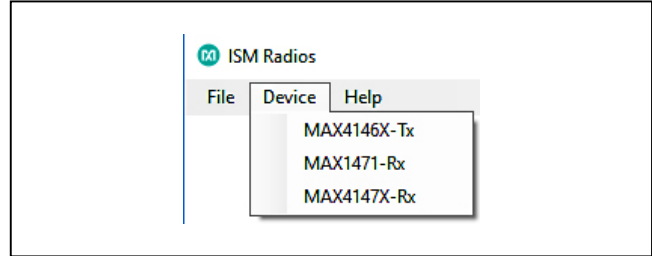
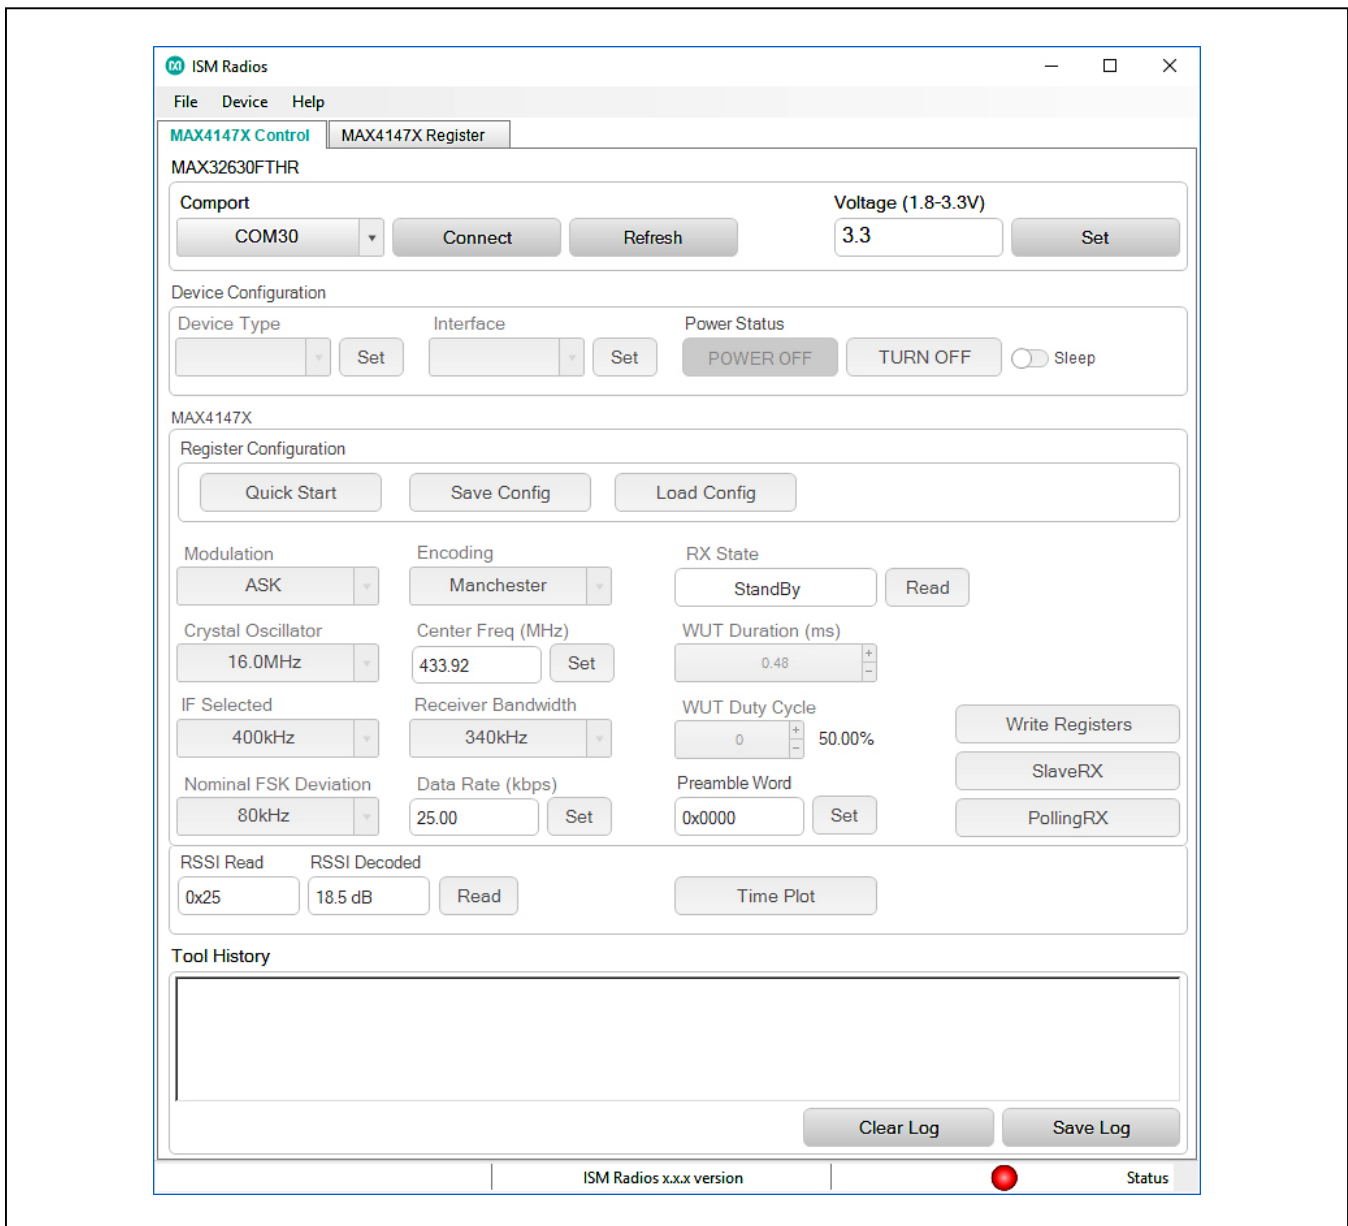

Figure 5. ISM Radios GUI Device Selection
Figure 6. ISM Radios GUI Software Startup
- 7) Under the **Device** menu option, select MAX4147X-Rx (Figure 5). The GUI tabs populate in the window, as shown in Figure 6.